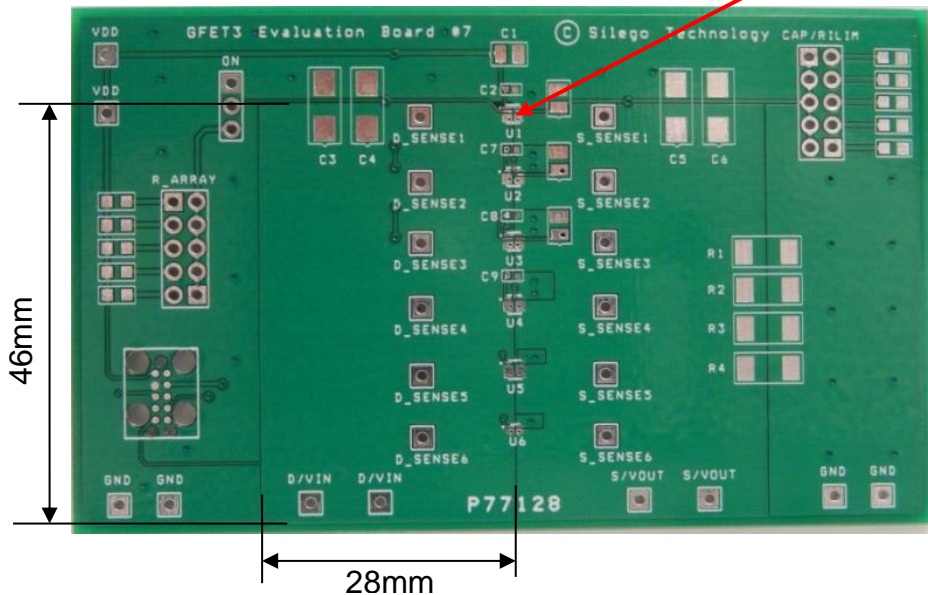

Figure 3. SLG59M1658V Evaluation Test Board
2.3. The D/VIN and S/VOUT pins carry significant current. Please note how the D/VIN and S/VOUT pads are placed directly on the power planes in Figure 3, which minimizes the $R_{ds(ON)}$ associated with long, narrow traces. The D/VIN, S/VOUT and GND pins dissipate most of the heat generated during high-load current condition. The layout shown in Figure 3 is illustrating a proper solution for heat to transfer as efficiently as possible out of the device.